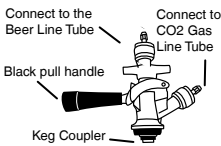

fig. 1
1. Make sure the black pull handle of the Keg Coupler is in the closed (up) position before installing it on the keg (Fig. 1). Insert the Keg Coupler into the locking neck of the Beer Keg and turn clockwise until it locks into position (Fig. 2). This means that it is secured to the Beer Keg.